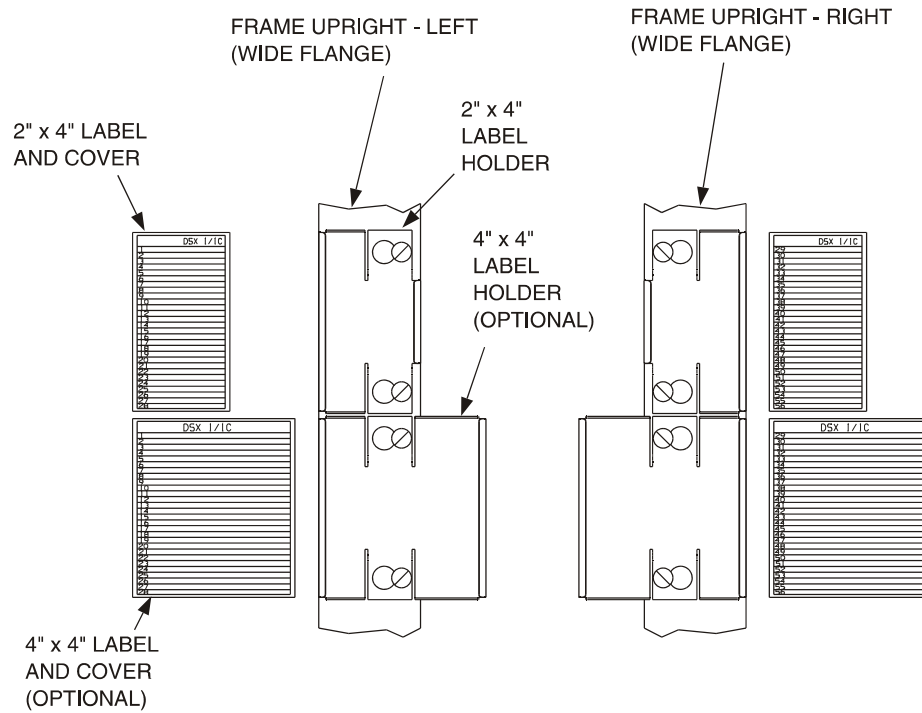

Figure 4. Installing Label Holders and Label
1. At front of panel, install 2-inch x 4-inch (51 mm x 102 mm) label holders on both sides of panel on the frame and insert panel (see Figure 4).